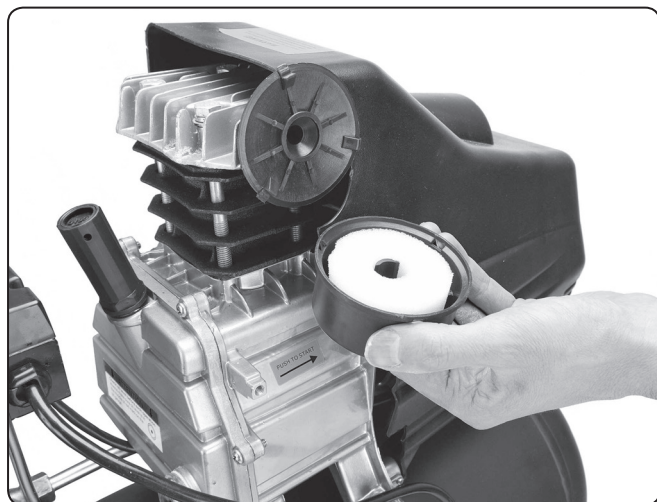

Fig. 9
- 3) Insert the filter back into the cover as shown in fig. 9 and put the cover back on so that it clicks in on to the clips.
To gain access to the air filter, remove the top cover by „clicking it out“ of the locking clips as shown in fig. 9.